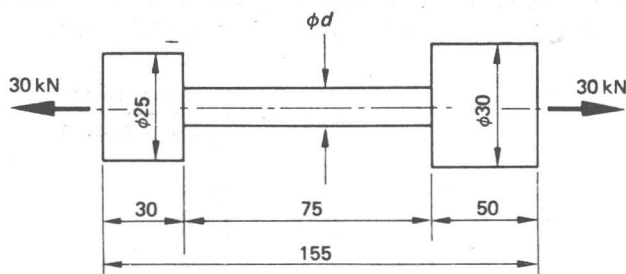

Fig. 1.7
10) A turned bar is as shown in Fig. 1.7. If the stress in the centre portion is  $100 \text{ MN/m}^2$ , find the diameter  $d$  mm. If the modulus of elasticity for the bar material is  $210 \text{ GN/m}^2$ , find the total extension of the whole bar.